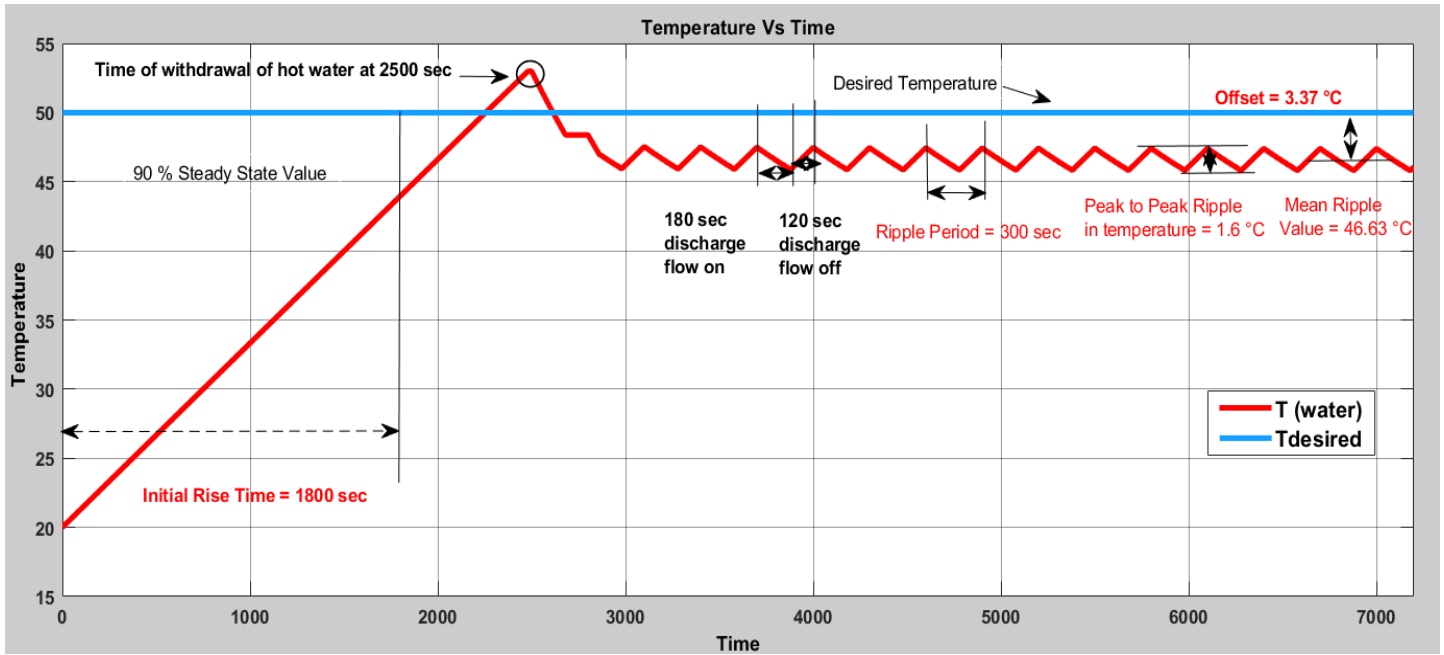

Fig 1: Temperature v/s Time Plot
- Initial Rise Time:** defined as the time required to change from the initial temperature to reach 90% of the steady state temperature. From the figure 1, the steady state temperature is 46.63 °C and the initial temperature is at 20°C. Therefore, the change in temperature =  $(46.63 - 20) \text{ °C} = 26.63 \text{ °C}$ . 90% of change in temperature = 90 % of 26.63 °C = 23.9 °C. Hence, the final value of temperature up to which the rise time is calculated is  $(20 + 23.9) \text{ °C} = 43.9 \text{ °C}$ . Estimate the time at which water reaches this temperature from the graph.
- Time of start of Withdrawal Cycle:** During the initial rise time, there is no withdrawal of water. The time at which hot water is withdrawn and it is replaced by the cold water. From figure 1, the cold water enters the system at  $t = 2500 \text{ sec}$ .
- Flow rate of Inlet of Cold Water:** For the above figure, the water enters the system at the rate of  $F$  litres/min, where ' $F$ ' is variable. The time period of the inlet of cold water is 300 seconds with a duty cycle of 60%. This means cold water will enter the system for 180 sec and will remain close for 120 sec and this cycle will repeat for every 300 sec. (starting from  $t=2500 \text{ sec}$  for figure 1)